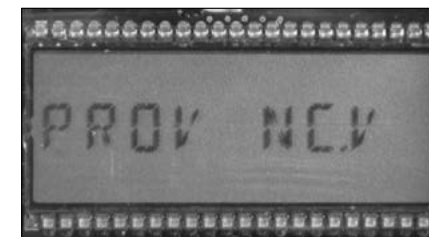

Figure 14.9 - LCD screen displays PROV NC.V
- A. Swipe the magnet across the word **"swipe"** until the screen displays **PROV NC.V** (Figure 14.9), and then stop swiping.